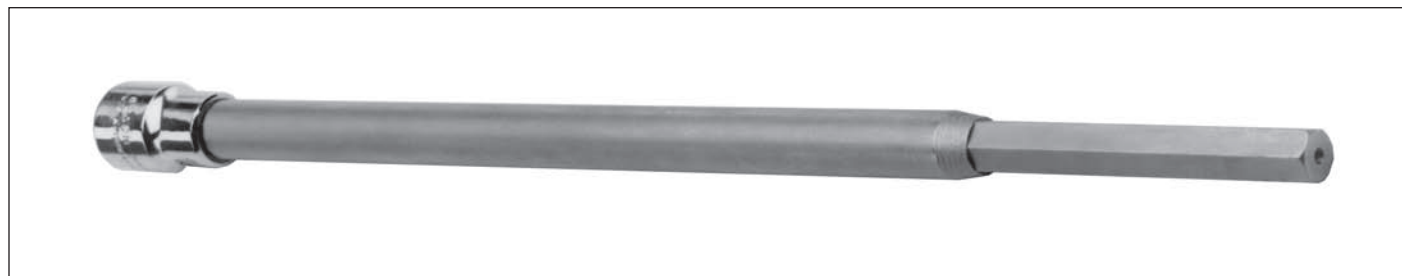

Figure 5.
- One 5/16" Hex Drive HD625 (Figure 5)